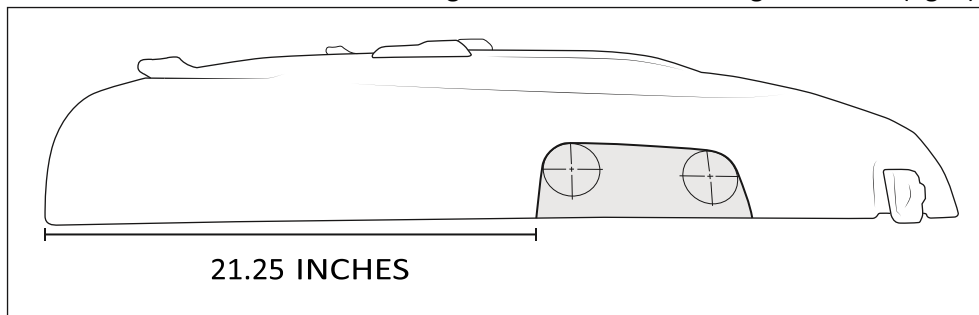

Figure 1
1. It is necessary to modify the factory hood to fit the snorkel. Cut out and place the trim template provided on the last page (also available at [aev-conversions.com](http://aev-conversions.com)) onto the right side of the hood (fig. 1). Place masking tape on the bottom 6" of the hood to protect the paint and provide a surface for marking the template outline. Measure 21.25" from rear edge of the hood to back edge of cutout (fig. 1).